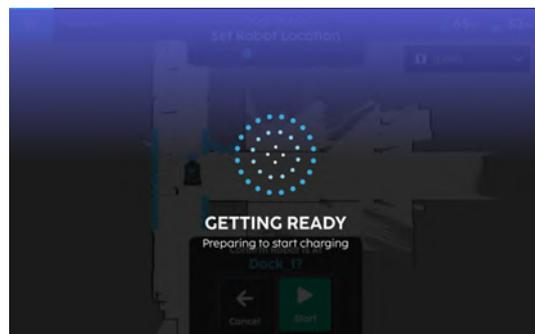

FIGURE 12-7
3. Press 'Start' and the machine will begin to dock (**Fig. 12-7**).